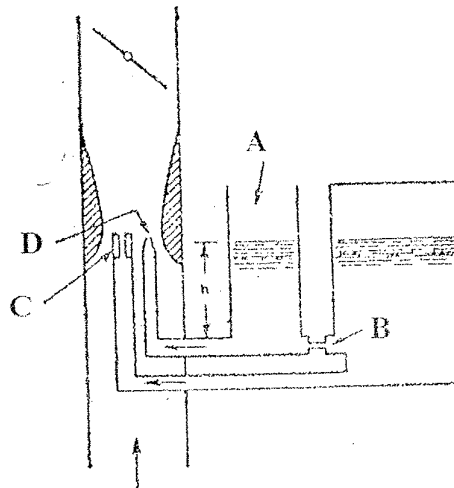

Figure 5.1: A Simple Carburettor
b) Figure 5.1 illustrates a simple carburettor.